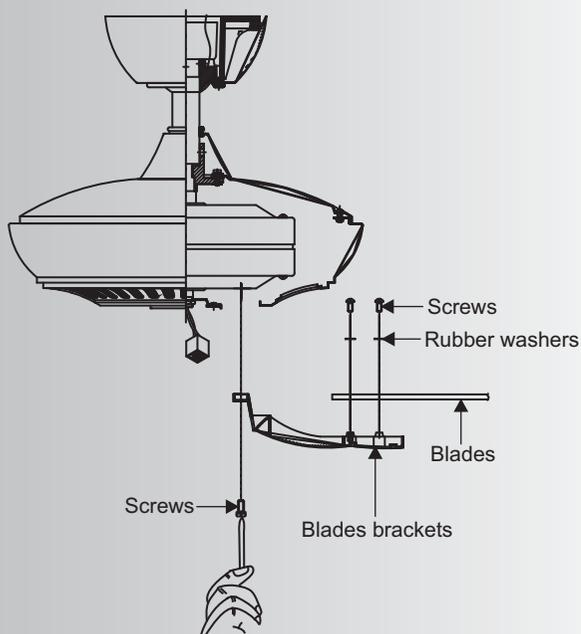

Fig. 14
Step 1. Attach blades to blade arm using the screws with rubber washers provided. (Fig. 14)
Step 2. Attach each blade assembly to the motor using the "Pre-Installed" mounting screws in the blade bracket. (Fig 14)